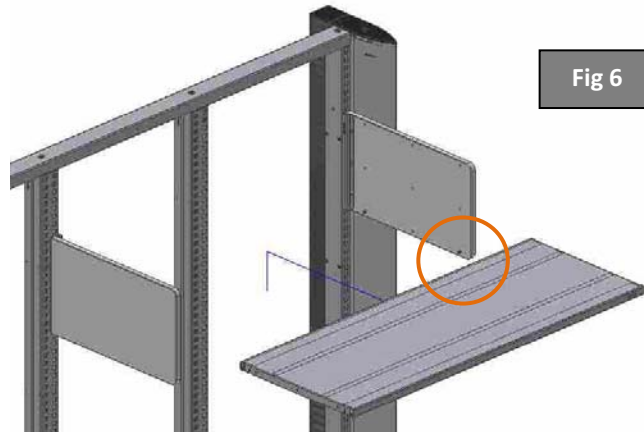

Fig 6
STEP 3 – Position the **tray** in such a way that the previously mounted screws enter the slots in the same (Fig. 6 and 7)